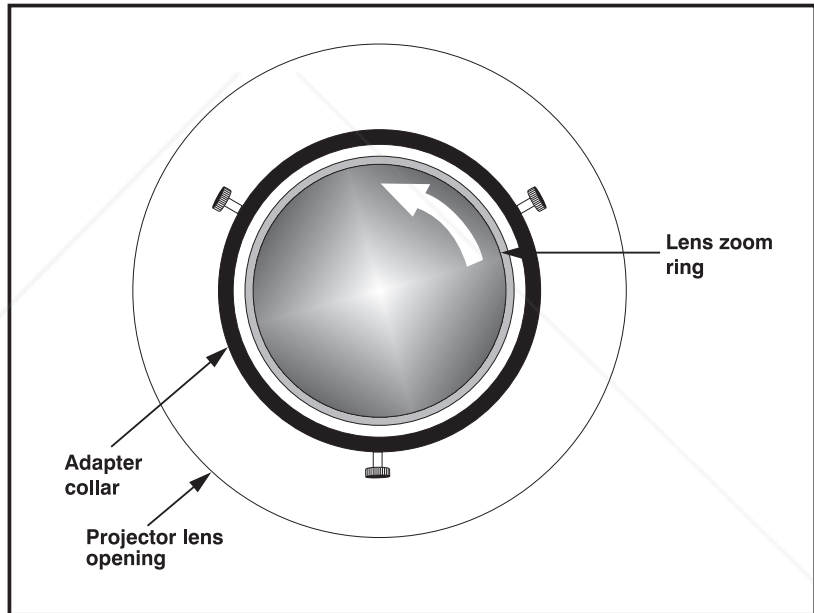

Figure 4-9. Turn lens zoom ring ALMOST as far as possible
- e) Face the front of the projector and manually turn the lens zoom ring counter-clockwise as far as possible (see Figure 4-9). Then turn clockwise very slightly — about an eighth of an inch.